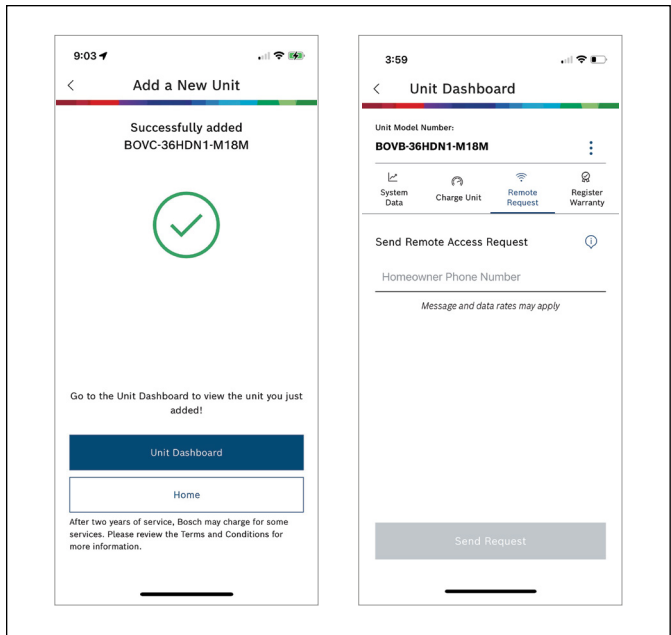

Figure 58
7. Once the heatpump has been added, access the "Remote Request" tab via the "Unit Dashboard" to associate it to the homeowner (Figure 58).